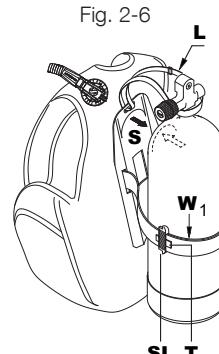

Fig. 2-6
2. If the BC has a hard backplate, place the cavity (S) of the backplate on the shoulder of the tank (Fig. 2-6) and then fasten the strap (Fig. 2-5 and 2-7) of the quick-release belt (W1) around the tank.